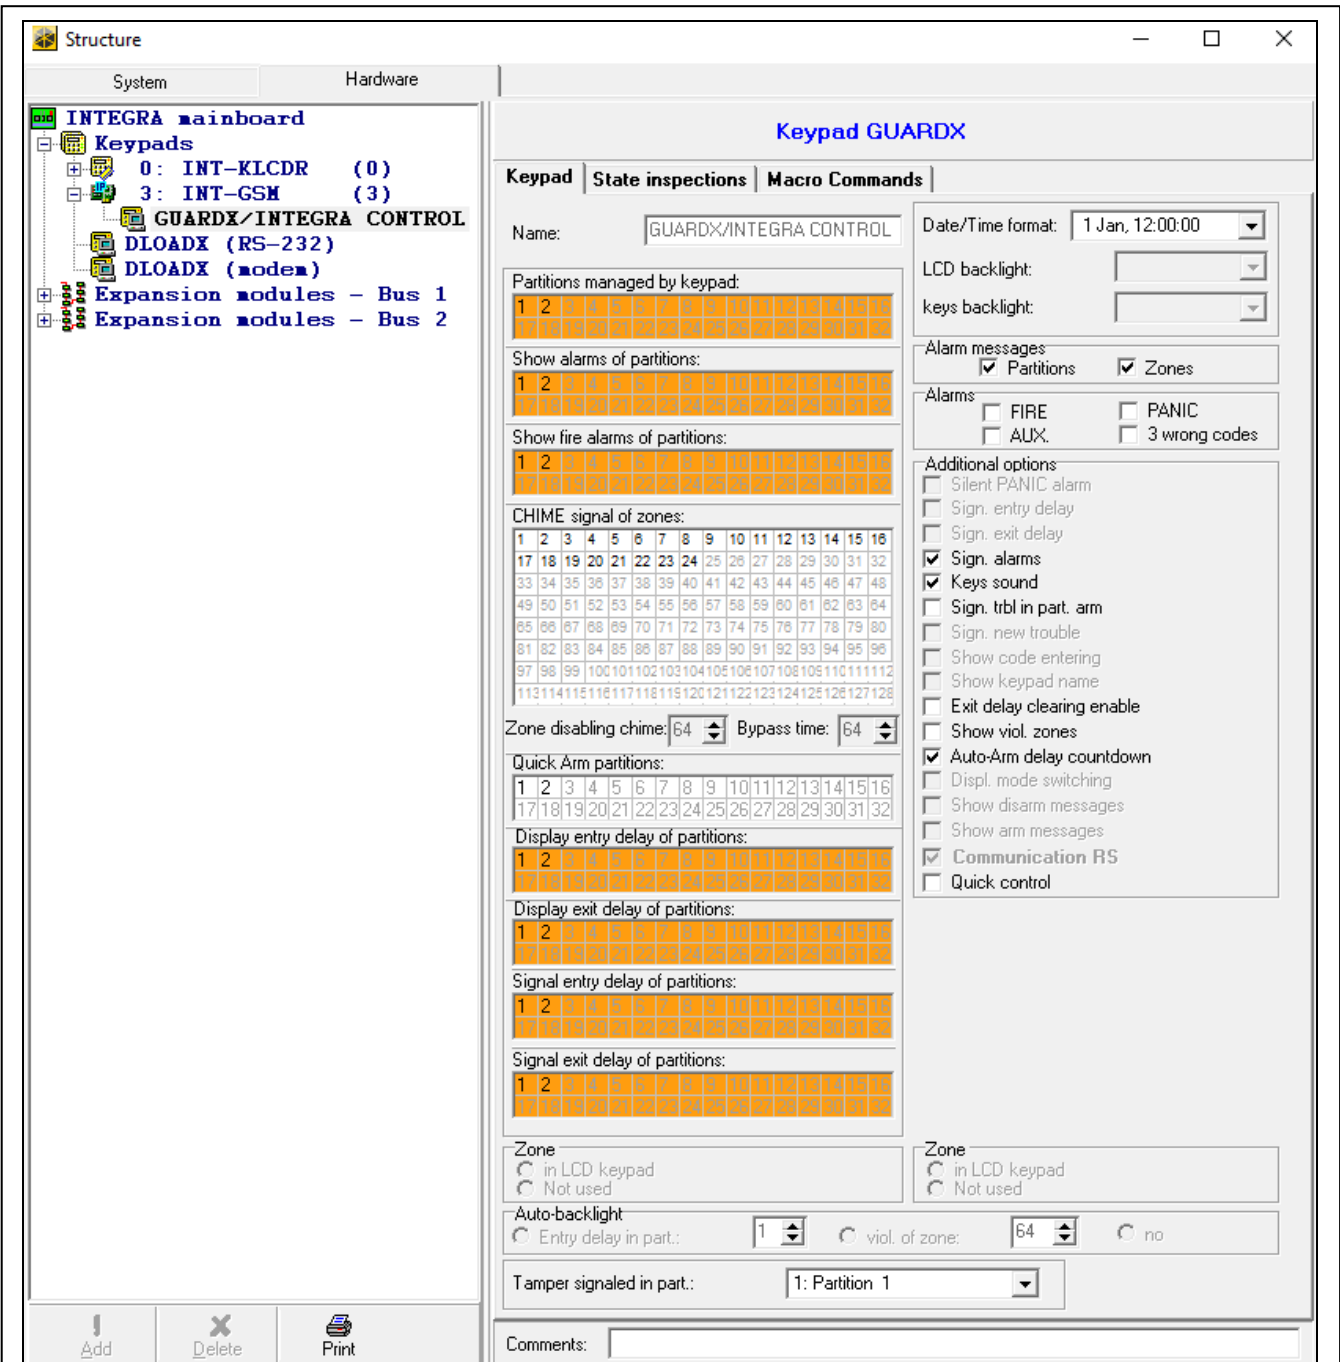

Fig. 17. DLOADX program: parameters and options of the virtual keypad available in GUARDX program or mobile device.
- DLOADX program: “Structure” window → “Hardware” tab → “Keypads” branch → [module name] → “GUARDX/ INTEGRA CONTROL” item (Fig. 17),